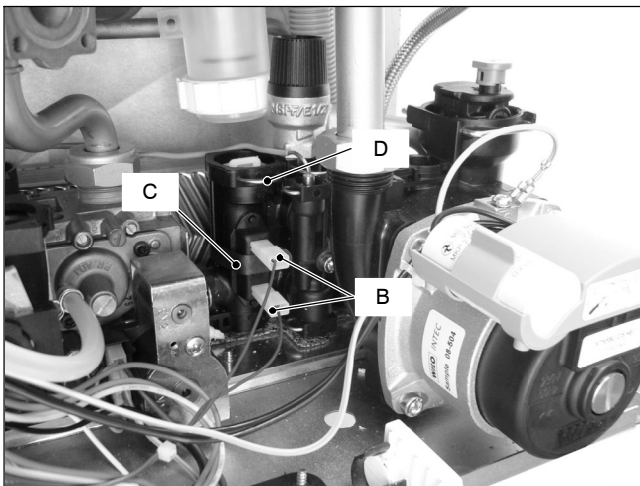

Fig. 14.2
- 2 Disconnect the connectors B and remove the sensor holder spring C (Fig. 14.2).